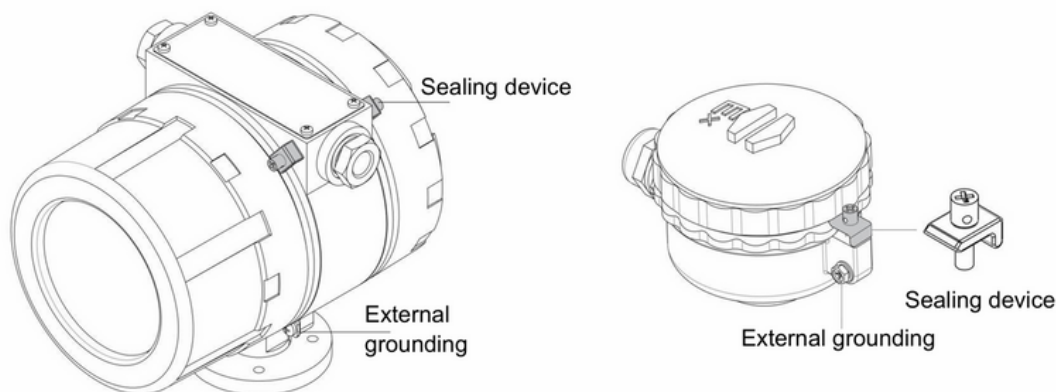

Figure 6
The transmitter and junction box have cover grooves for optional sealing devices. When sealing is fitted, the enclosures cannot be opened without tools, which protects the Ex integrity; see Figure 6.
- The sensor is normally grounded through the process piping. In addition, we provide M4 external grounding screws on the transmitter housing and on the junction box; see Figure 6.